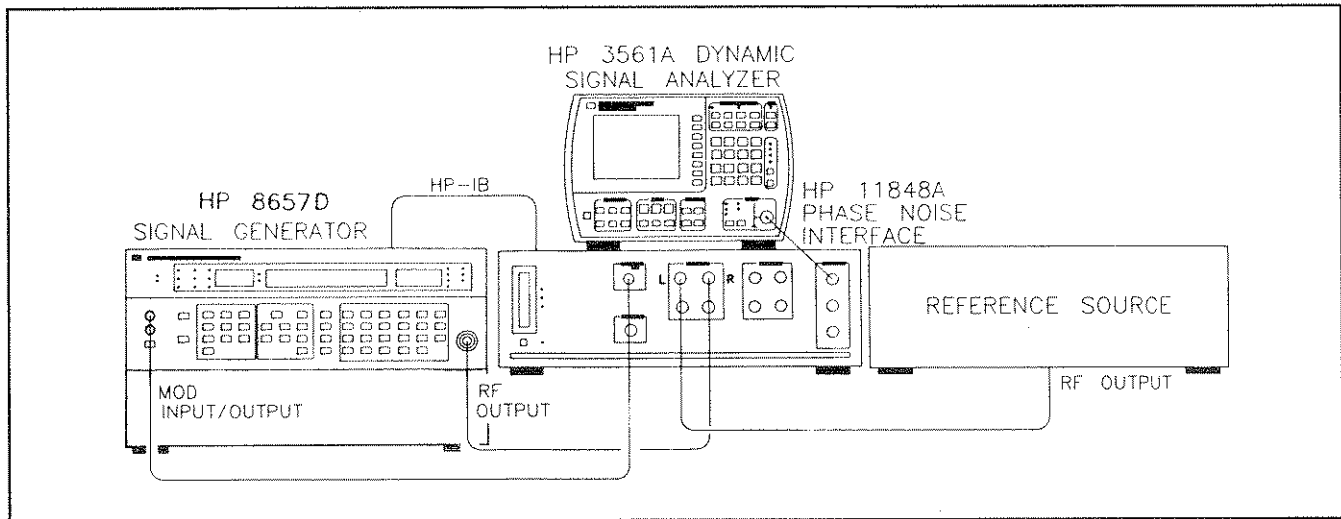

Figure 4-5. Setup Diagram for SSB Phase Noise Measurement
12. When the hardware connect diagram appears in the display, connect the HP 8657D and reference source to the HP 3048A as shown. (Note that the reference source is labeled USERS'S DUT on the screen. Figure 4-5 also shows the cable connections for this measurement.)